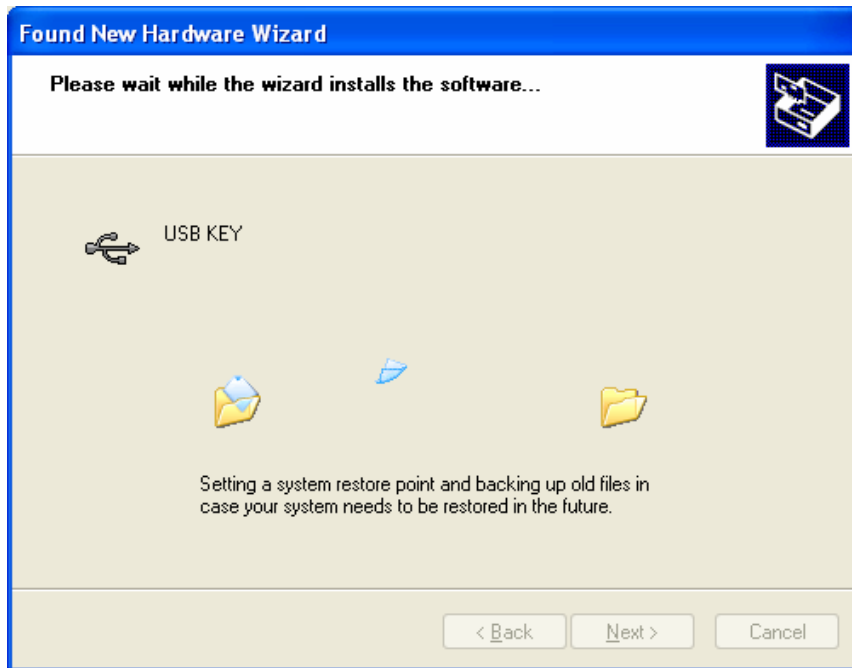
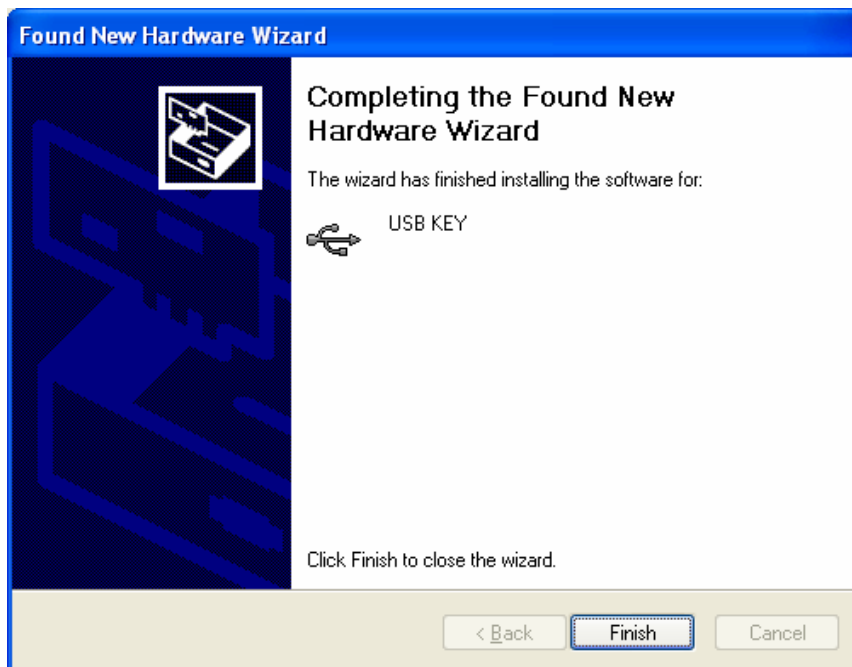

Figure 27
Figure 28
16. After selecting Continue Anyway, the installation will continue with the USB Key Driver Installation by copying and updating the necessary files. A window similar to Figure 27 appears showing this installation progress. When the copying is completed a window similar to Figure 28 appears showing that the Installation was complete. At this time select the Finish push button to complete the USB Key Driver Installation.